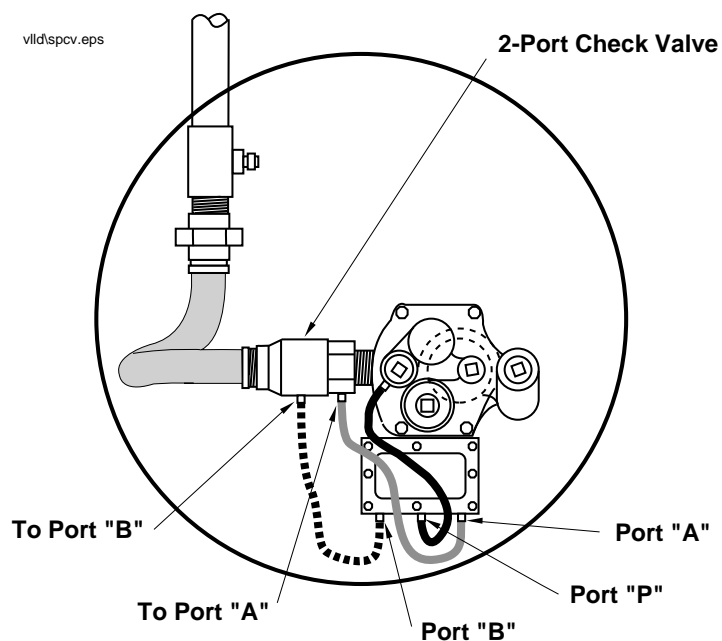

Figure 4. Single-Piece (Two-Port) Check Valve
- ☐ Single-piece check valve with 2 ports [Figure 4 on page 9]. Older VLLD systems and VLLD for high capacity pumps use the single-piece check valve shown in Figure 4.